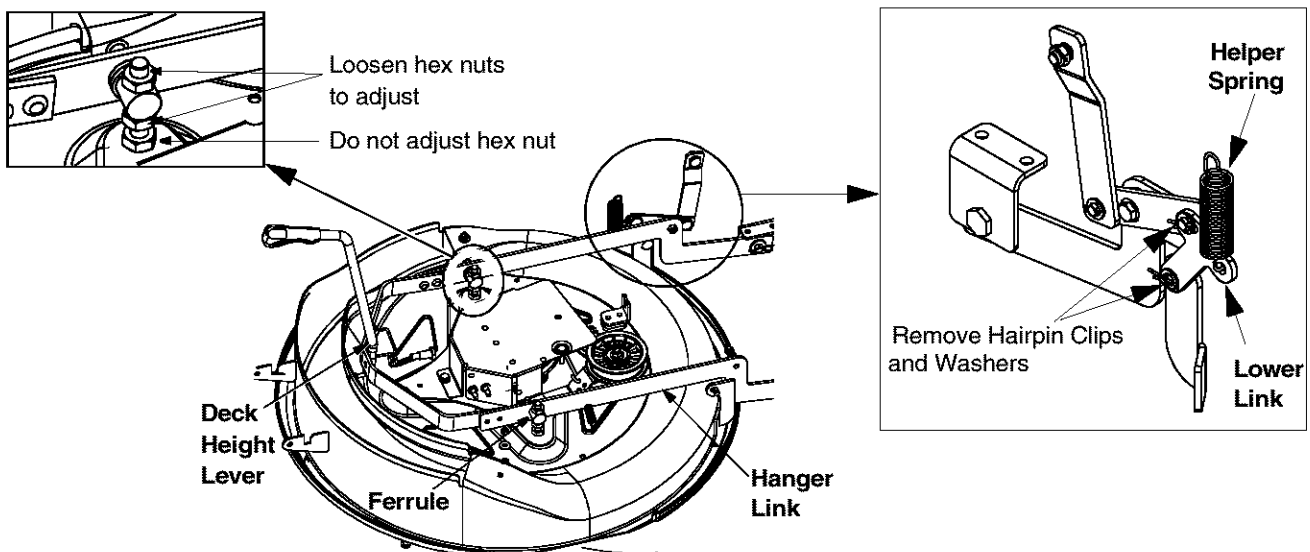

Figure 13
1. Completely loosen, but do not remove, the top hex nut out of the three hex nuts that hold the hex bolt and the ferrule on the deck hanger link assembly. See Figure 13.
5. Reattach lower links as shown in Figure 13 inset.
3. Completely loosen, but do not remove, the top hex nut out of the three hex nuts that hold the hex bolt and the ferrule on the deck hanger link assembly. See Figure 13.
6. Thread the middle nut up against the base of the ferrule. See Figure 13.